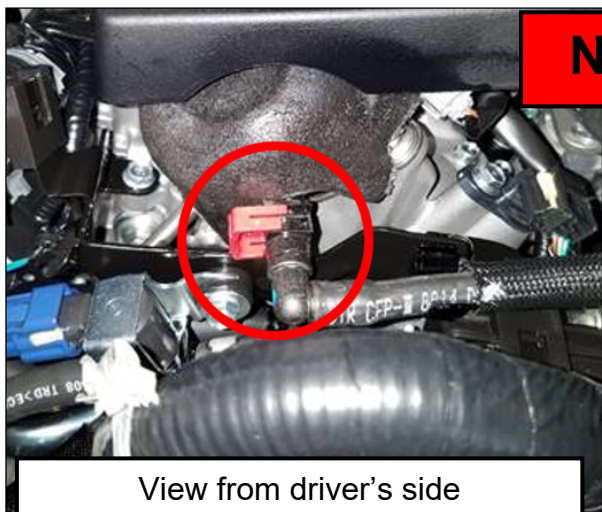
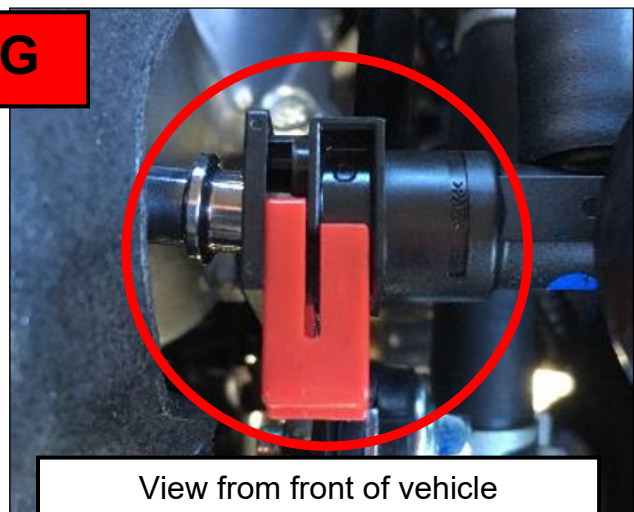

Figure 5
Figure 6
- If the fuel feed hose retainer condition is out (not fully locked, similar to Figure 5 and Figure 6), follow the instructions in step 5 on the next page.